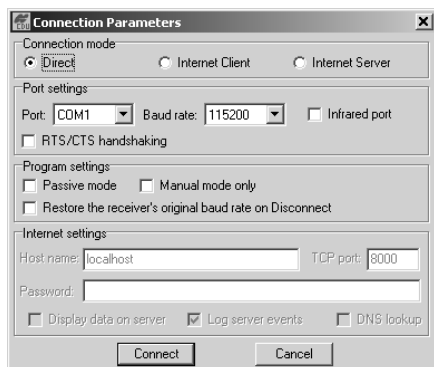

Figure 3-5. RS232 Connection Parameters
- for RS232 connections (Figure 3-5 on page 3-10)